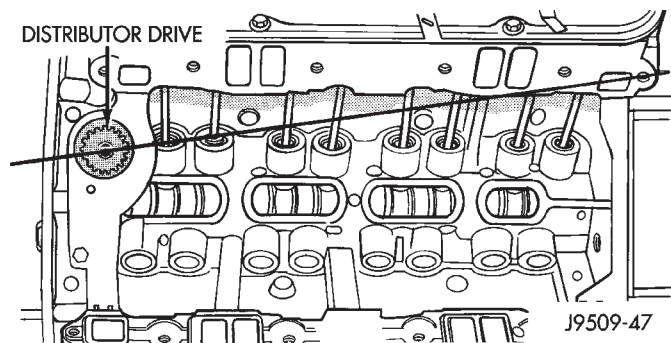

Fig. 41 Position of Oil Pump Shaft Slot
(1) Rotate crankshaft until No.1 cylinder is at top dead center on the firing stroke.
(2) When in this position, the timing mark of vibration damper should be under "0" on the timing indicator.
(3) Install the shaft so that after the gear spirals into place, it will index with the oil pump shaft. The slot on top of oil pump shaft should be aligned towards the left front intake manifold attaching bolt hole (Fig. 41).